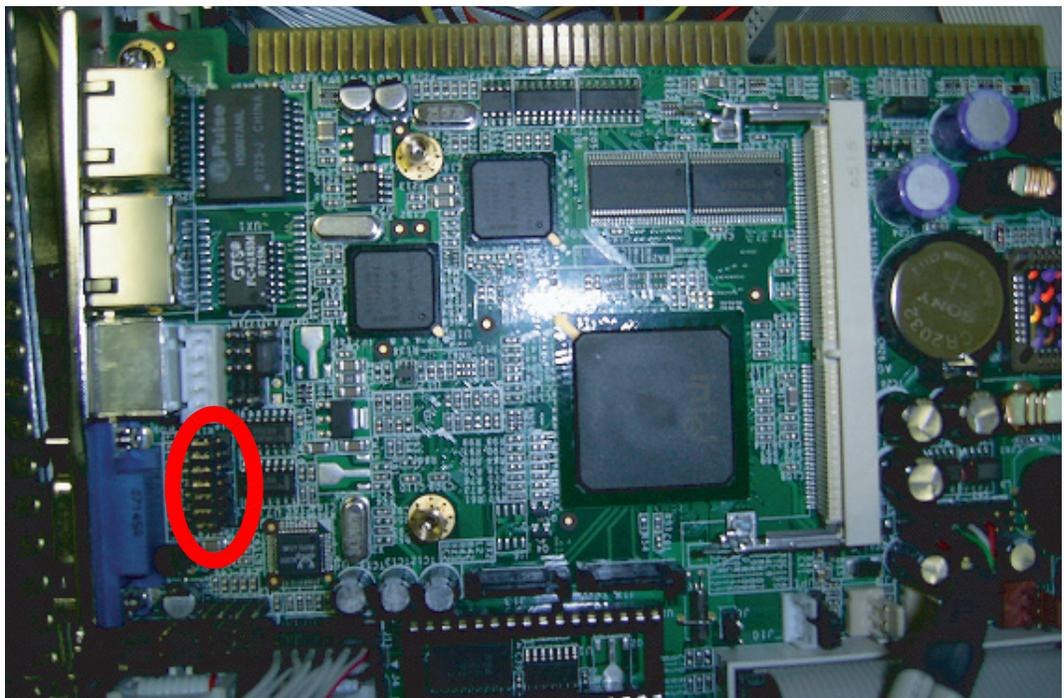

Figure 7-10 Placing a Jumper on Pin 2-3
- f. With the unit powered off, disable the on-board VGA by placing a jumper on pin 2-3 for jumpers of J5 to J11 of the Single Board Computer (SBC) (see Figure 7-10). Insert the 4190-6038 video card in PCI slot 3-3.